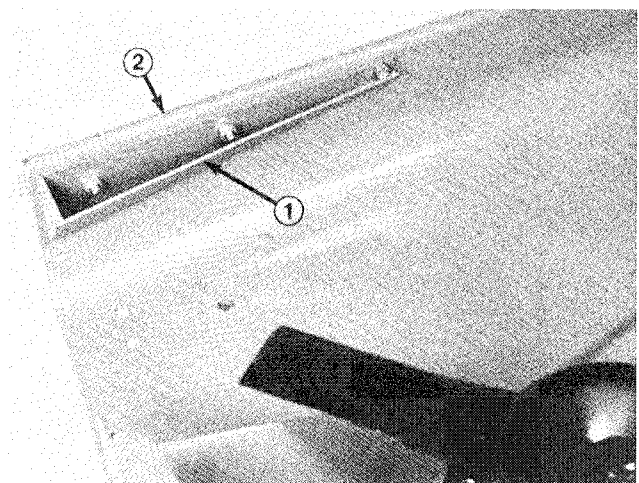

Figure 5
2. Position front baffle on underside of cutting unit and secure front of deflector with 5/16-18 x 1-3/4" capscrew and lock nut at mounting hole (Fig. 5).
3. Using front baffle as a template, mark and drill (2) 3/8 in. diameter holes in deck (Fig. 5). Secure with (2) 5/16-18 x 1-3/4" capscrews and lock nuts.